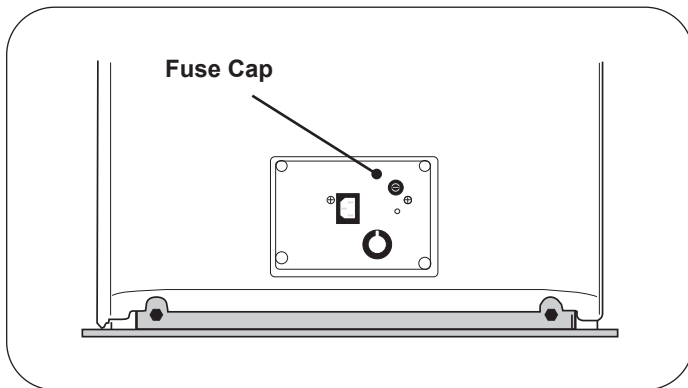

Figure 44. Fuse Cap
3. Push the fuse holder cap in with a flat screwdriver and rotate 1/4 turn counterclockwise to remove cap and fuse (Figure 44).